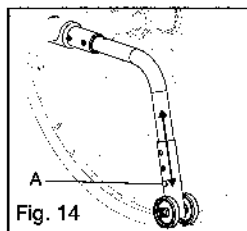

Fig. 14
How to Adjust the Wheel Extension Height (Fig. 14)
1. Press the anti-tip wheel release pin (Fig. 14:A) so the release pin is drawn inside.